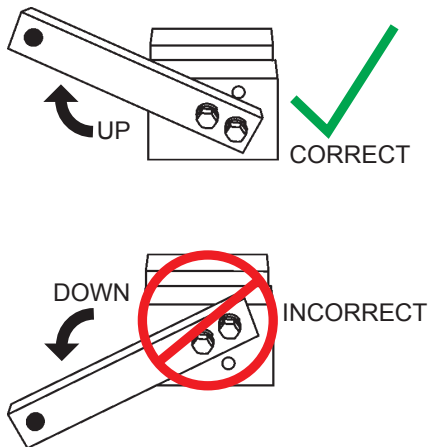

Figure 67. Fixture Arm Position (UP)
2. Make sure the fixture arm is in the **UP** position (Figure 67).